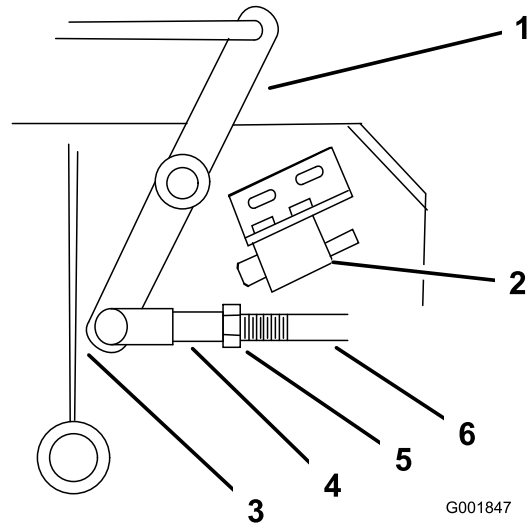

Figure 42
4. Adjust the linkage length to where the lower end of the bellcrank just clears the axle support gusset (Figure 42).
9. Loosen the nut against the yoke (Figure 42).